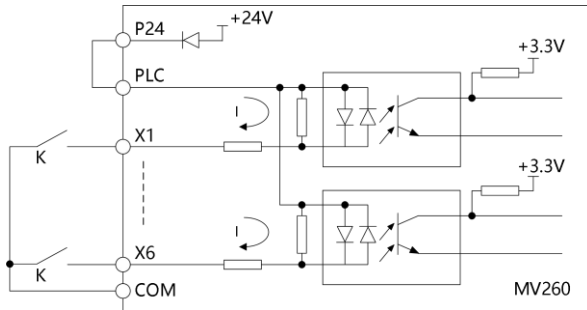

Fig.3-11 The wiring mode when using the internal +24V power supply of the drive
(1) Dry contact mode (X1~X6)
① When using the internal +24V power supply of the drive, the wiring mode is as shown in Fig.3-11.